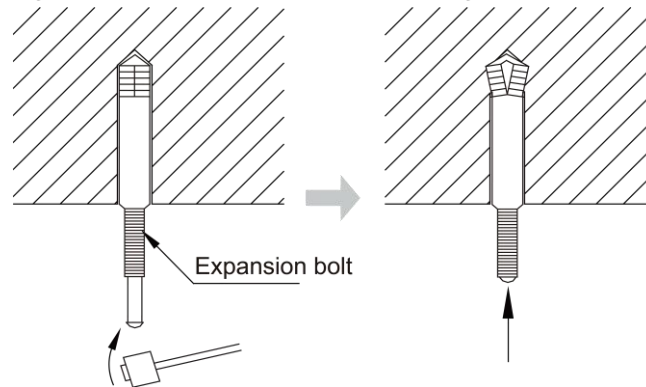

Fig 4.1.4
- (2) Insert the expansion bolt M10 into the hole and drive the iron nail into the bolt, as shown in Fig 4.1.4.